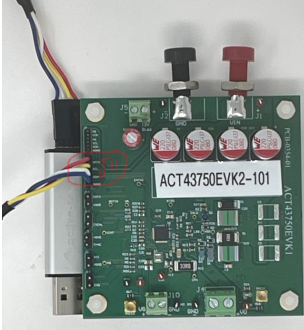

Figure 3. Old dongle connection at J11
- Dongle connector GND is aligned with the AGND pin of J11 as shown in Figure 3.